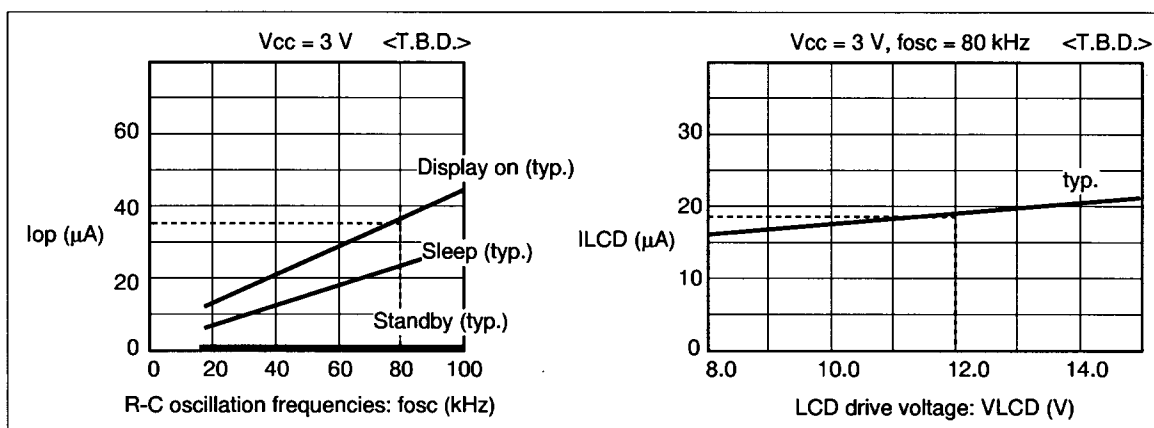

Figure 70 Relationship between the Operation Frequency and Current Consumption
8. The following shows the relationship between the operation frequency (fosc) and current consumption (Icc) (figure 70).